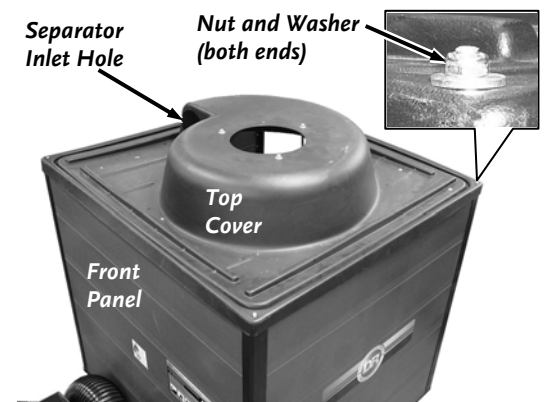

Figure 9
7. Slide the Front Panel (with Labels right side up and facing out) into the Grooves at the front of both Side Panels and push it down until the groove at the bottom of the Front Panel slides over the Lip in the Collector Base (**Figure 9**).